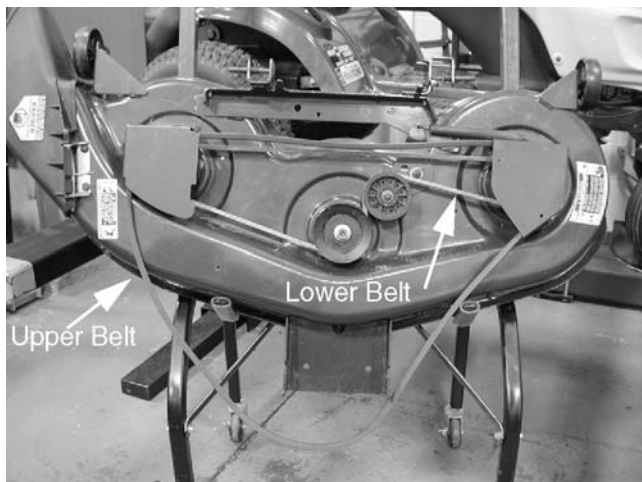

Figure 11-7
2. Record the belt routing. See Figure 11-7.